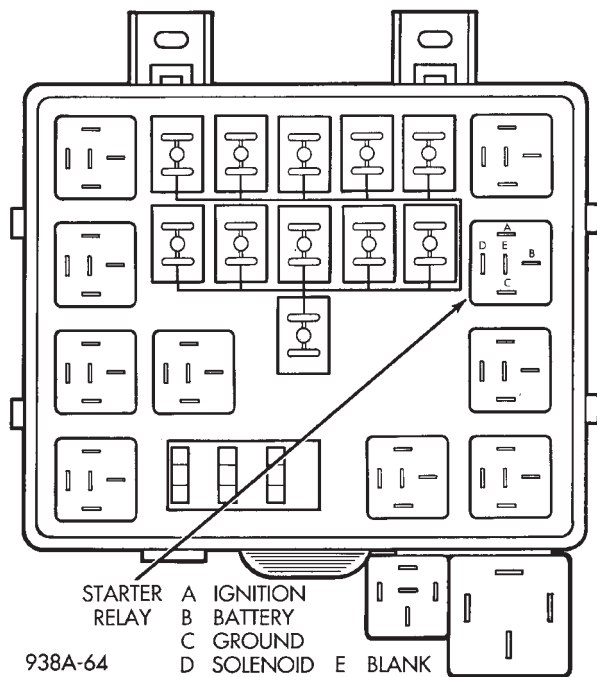

**Fig. 13 Starter Relay Location**
(1) Verify battery condition. Battery must be in good condition with a full charge before performing any starter tests. Refer to Battery Tests.
(2) Perform this starter solenoid test BEFORE performing the starter relay test.
(3) Raise the vehicle.
(4) Perform a visual inspection of the starter/starter solenoid for corrosion, loose connections or faulty wiring.
(5) Lower the vehicle.
(6) Locate the starter relay (Fig. 13).
(7) Remove the starter relay from the power distribution center.
(8) Connect a remote starter switch or a jumper wire between the battery positive post and terminal D on the starter relay connector (Fig. 13).
- (1) Verify battery condition. Battery must be in good condition with a full charge before performing any starter tests. Refer to Battery Tests.
- (2) Perform the preceding starter solenoid tests **BEFORE** performing starter relay tests. Refer to Starter Solenoid Test.
- (3) Locate and remove the starter relay (Fig. 13).